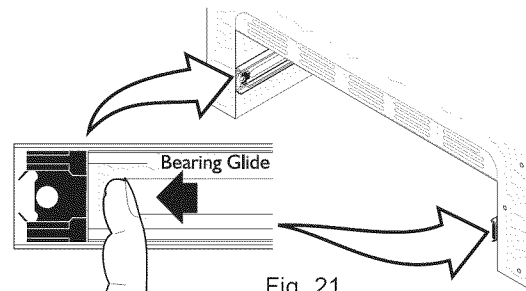

Fig. 21
- Pull the bearing glides to the front of the chassis glide (See Fig. 21).